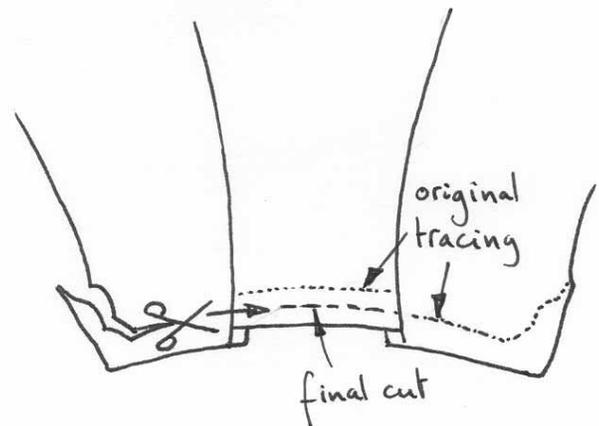

Figure 24
- B. If they do not match, use the lower of the lines as a guide to trace a new line extending through the other panel(s) as shown in **Figure 24**. Cut along that new line and sear lightly.